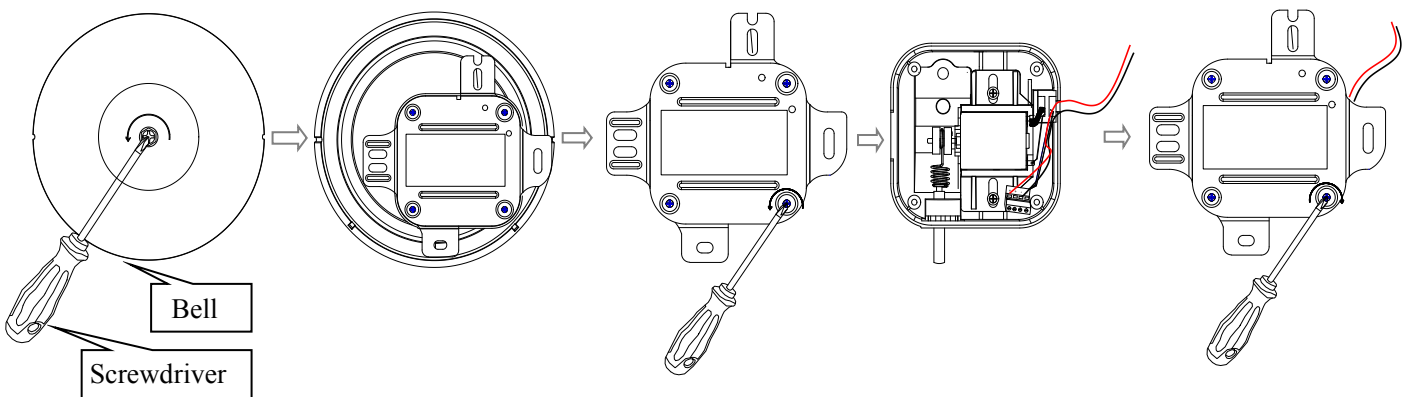

Figure4: Connect wires to terminal of bell
Step1: Connect the wires from panel to the terminal of bell (see figure4).